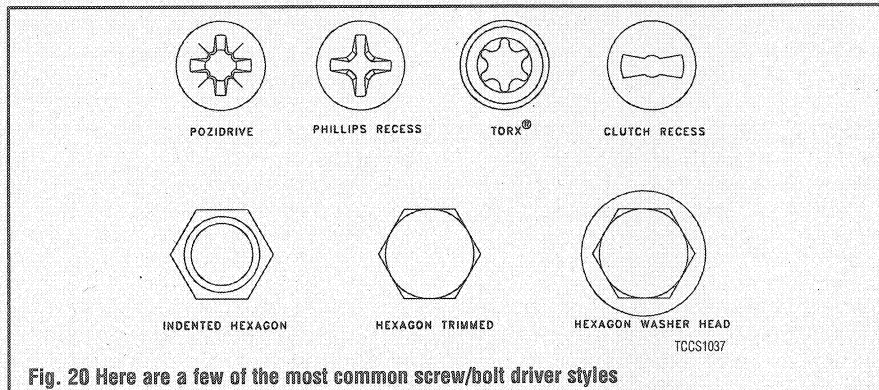

Fig. 20 Here are a few of the most common screw/bolt driver styles
▶ See Figures 20, 21, 22 and 23